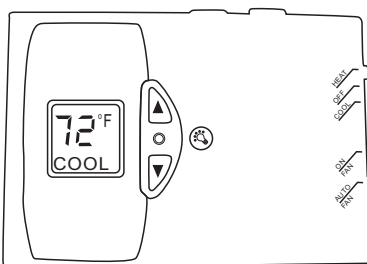

Fig 11. Wall thermostat
- . Push the mode switch to either positions (see Fig. 11) : Cool-off-Heat
- . Push the Fan switch to either positions (see Fig. 11) : On Fan-Auto Fan
- . Press the UP key to increase the temperature, or press the DOWN key to decrease the temperature (see Fig. 11)